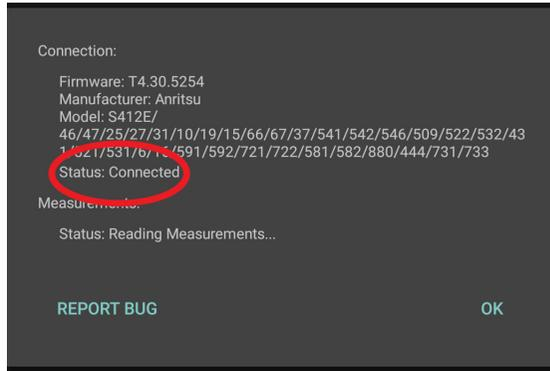

Figure 2-12. Status Connected
8. Verify “Status: Connected” is displayed as shown in Figure 2-12.